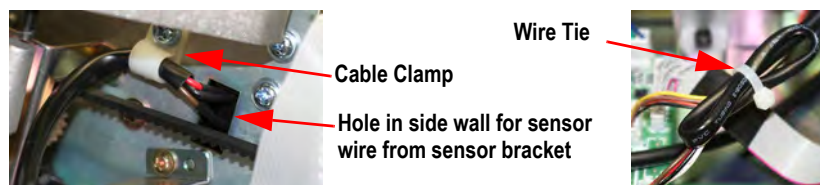

Figure 3-20. Cable Clip and Wire Tie
12. Thread the end of the wire into the hole in the side wall (see Figure 3-20 on page 35).